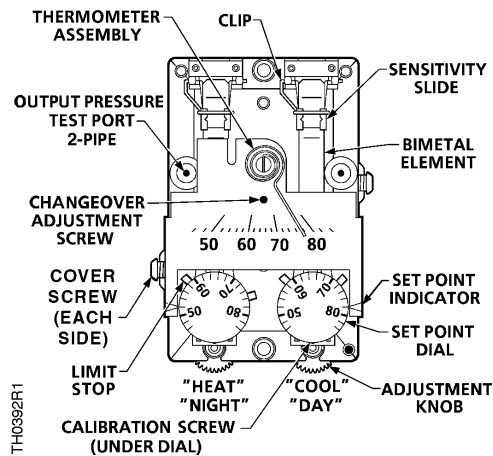

Figure 5. TH 192 HC Thermostat Details.
2. Place a screwdriver in the center of the thermometer assembly (Figure 5). Carefully rotate thermometer assembly until the pointer tip indicates the correct room temperature.